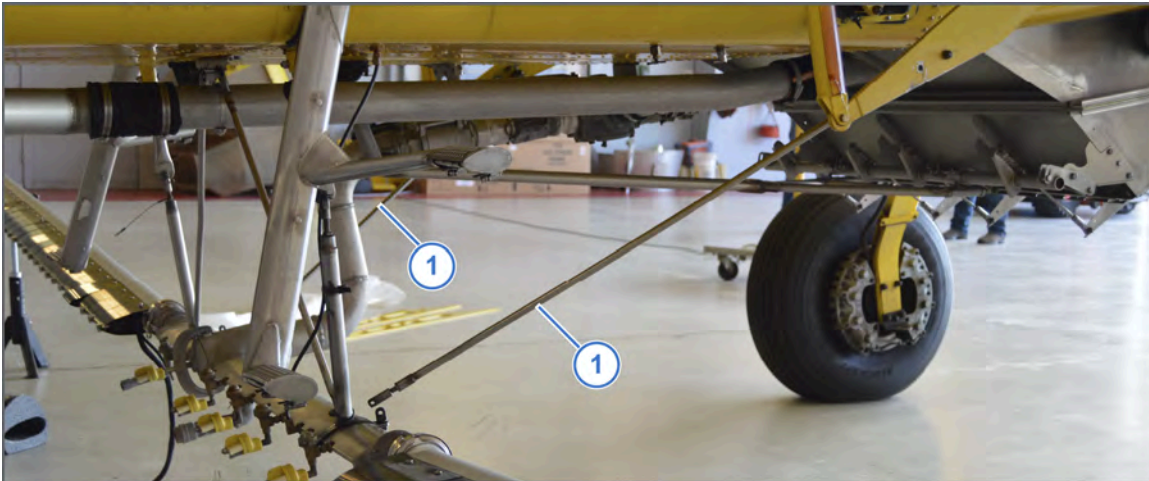

Figure 2: Disconnect the Support Tube Assemblies
4. If installed, disconnect the forward-facing support tubes (Figure 2, Item 1) on the center boom.